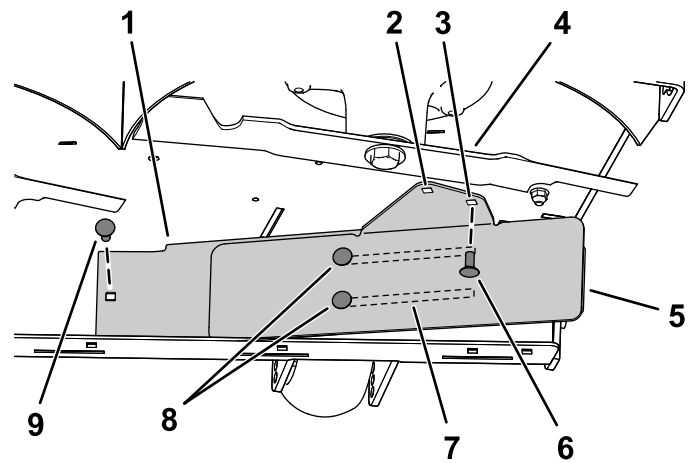

Figure 9
- Install the left side of the baffle using a carriage bolt (5/16 x 3/4 inch) and flange nut (5/16 inch) as shown in Figure 9.
- Loosen the 2 carriage bolts (5/16 x 3/4 inch) in the baffle slots, and slide the baffle until the hole aligns with the hole in the mower deck (Figure 9).
- Install baffle as shown in Figure 9.
Important: Ensure that you use the correct hole for the baffle; refer to Figure 9.
- Tighten the 2 carriage bolts (5/16 x 3/4 inch) in the baffle slots (Figure 9).